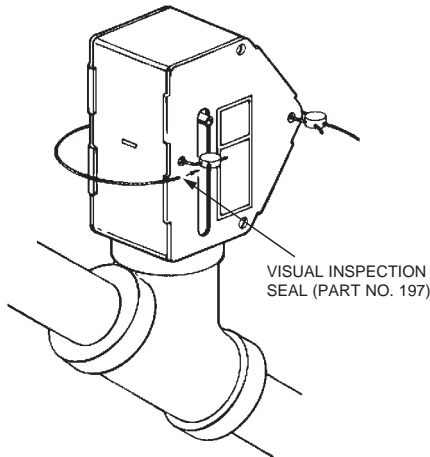

FIGURE 6-1
- 8. Reinstall side covers to gas valve housing. Make certain roll pin is positioned within both sides of the valve housing slot. Connect visual inspection seals (Part No. 197) on ANSUL type valves. See Figure 6-1 (next page).